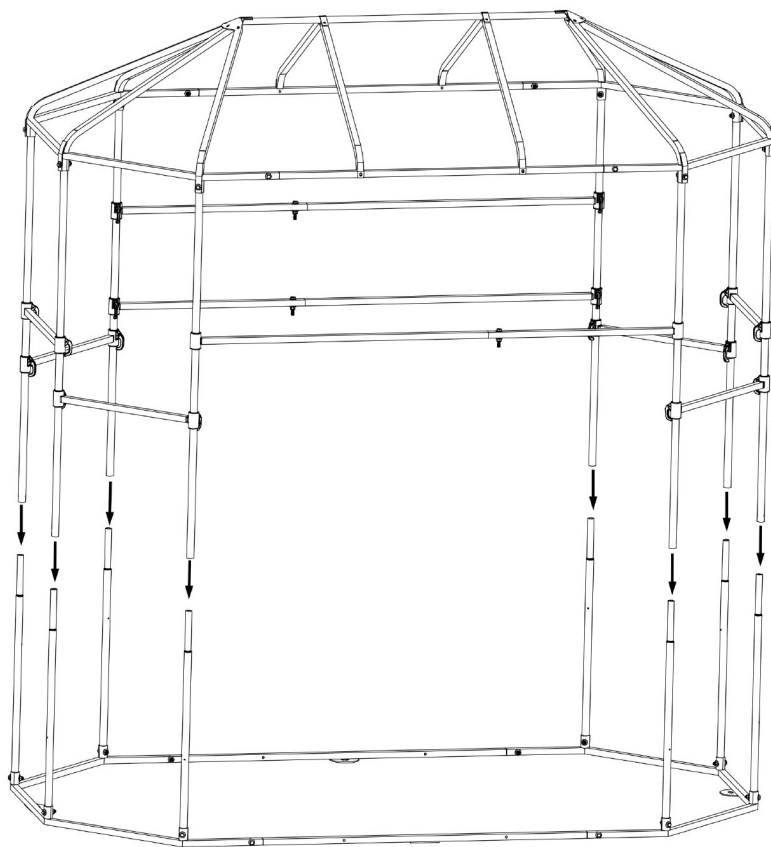

Figure 9
Step 9. With the help of at least two people place the roof section on by sliding the uprights together. It is best to insert each upright in about 1 inch then start lining them up all the way around and slide the assembly on all at once as seen in figure 9.